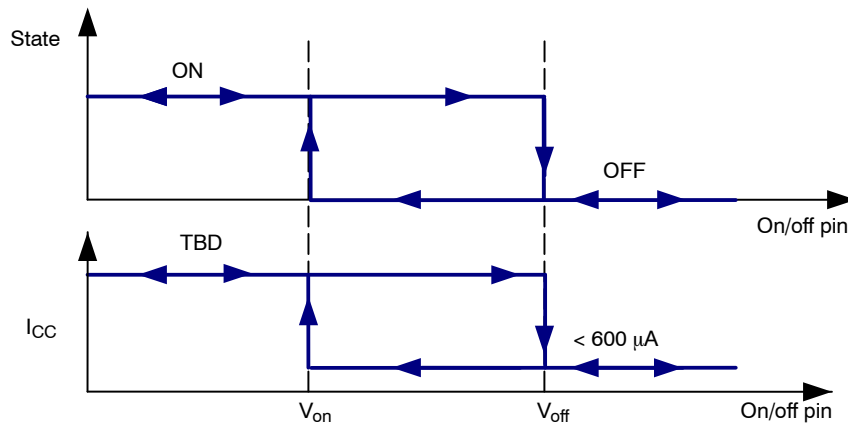

Figure 62. Remote on/off (on/off Pin)
- When the on/off pin is above 3 V, the device stops both PFC and LLC immediately and keeps low consumption. Figure 62 depicts the relationship between the operation mode and on/off pin.